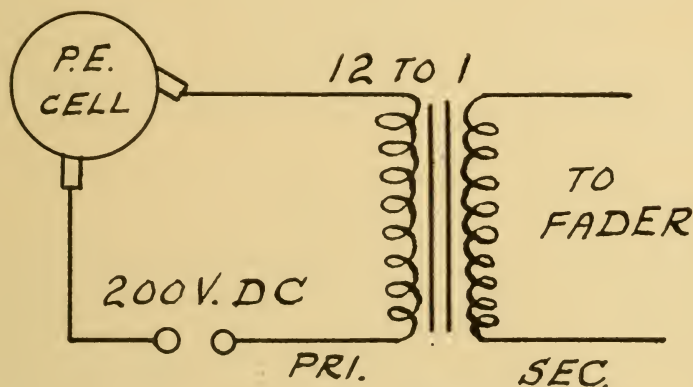

FIG. 120.—Photo-cell coupling. (Transformer coupling).
The two elements of the photo-cell are connected across a source of extremely steady, ripple-less direct current, drawn either from a dry battery or from an exceptionally well-filtered rectifier supply. One such circuit is shown in Figure 120. (16) Negatrons emitted by the cathode when light strikes it are attracted to the positive anode. This action constitutes a flow of current across the cell. Because the emission depends entirely upon the light reaching the cathode, the cell acts as a highly sensitive valve, permitting current to flow through it (anode voltage being constant) in proportion to the amount of light to which it is exposed. Since the response of the cathode is substantially instantaneous, the cell finds no difficulty in dealing with light fluctuations that correspond to even the highest frequencies of audible sound.
The arrangement of Figure 120 results in a flow of pulsating direct current through the primary winding of the 12-to-1 ratio transformer. The amperage flowing (the micro-amperage, to be more exact) will fluctuate in strength as many times per second as the light entering the cell changes, and will be proportionate in its strength to the strength of that light.
(17) Photo-conductive, as distinct from photo-electric, cells are used in a few sound systems. They consist merely of small pieces of the metal selenium, suitably mounted in a convenient holder. This metal has the property of acting as insulator in the dark and as a conductor when illuminated. It is believed that light causes an internal emission of negatrons from its atoms, while in darkness these negatrons cling to their atoms and repel any free negatrons attempting to flow through the metal as part of a current. (See Page 432.) A strip of this metal can readily be substituted for the cell shown in Figure 120, with simple circuit modifications for retaining impedance match.
(18) Figure 120 shows one common method of "coupling"—that is, wiring—the photo-electric cell to the switches, volume controls and amplifiers in which the pulsations of its direct current are controlled and amplified. In Figure 120 that current merely flows through the primary of a step-down transformer. The result is a flow of alternating current in the secondary winding that reproduces all the fluctuations of the pulsating direct current in the primary. But the voltage and amperage are altered. The voltage is reduced to 1/12th, and the amperage multiplied nearly 12 times. The sound current drawn from secondary of the transformer in Figure 120 passes through a fader before entering the system amplifier. The fader is essentially a double-throw, double-pole switch that connects the system amplifier with sound current from either projector. In some systems the fader serves as a volume control as well as a
(19) This arrangement is condenser-resistor coupling. The arrangement of Figure 120 is called trans-
When the photo-cell coupling system of Figure 120 is used, the length of wire between the transformer shown in that diagram and the system amplifier is of no importance. A fader or changeover may be built into the amplifier for use with this method of coupling, or may be mounted in a separate cabinet, the output leads from which are then wired to the amplifier. The volume control is a potentiometer in one of the amplifier circuits.